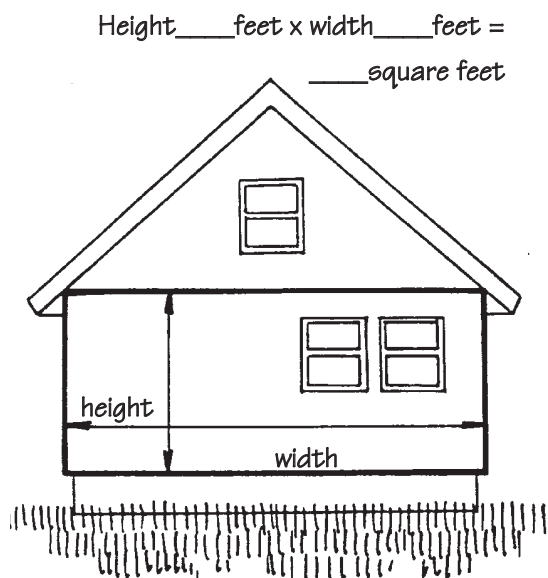

Figure 11. Wall Areas
- The area to be sided can be determined by measuring the height and width of the house, including windows (Fig. 11).